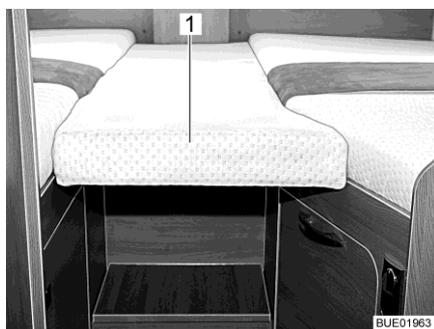
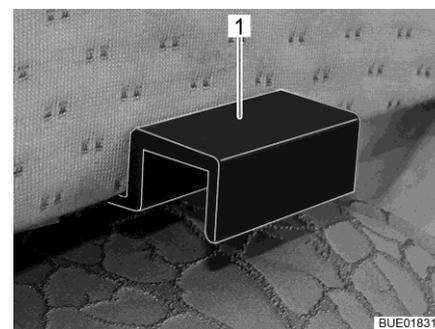

Fig. 167 Additional cushion
Fig. 168 Additional cushion holder
- Hook the additional cushion (Fig. 167,1) with the holders (Fig. 168,1) into the panels of the single beds so that a closed lying surface is created.